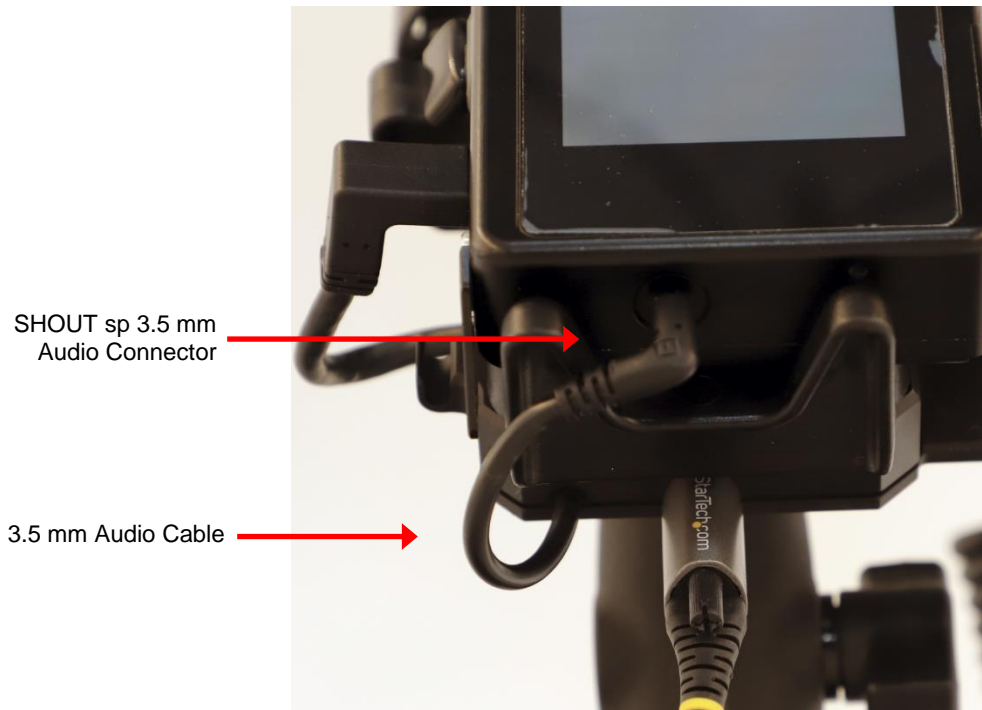

Figure 148: Audio Interface Connection
5. Attach the connector at the end of the Audio 3.5 mm cable from the Audio Amplifier Module to the 3.5 mm Audio connector port on the bottom of the SHOUT sp device (see **Figure 148** Error! Reference source not found.).